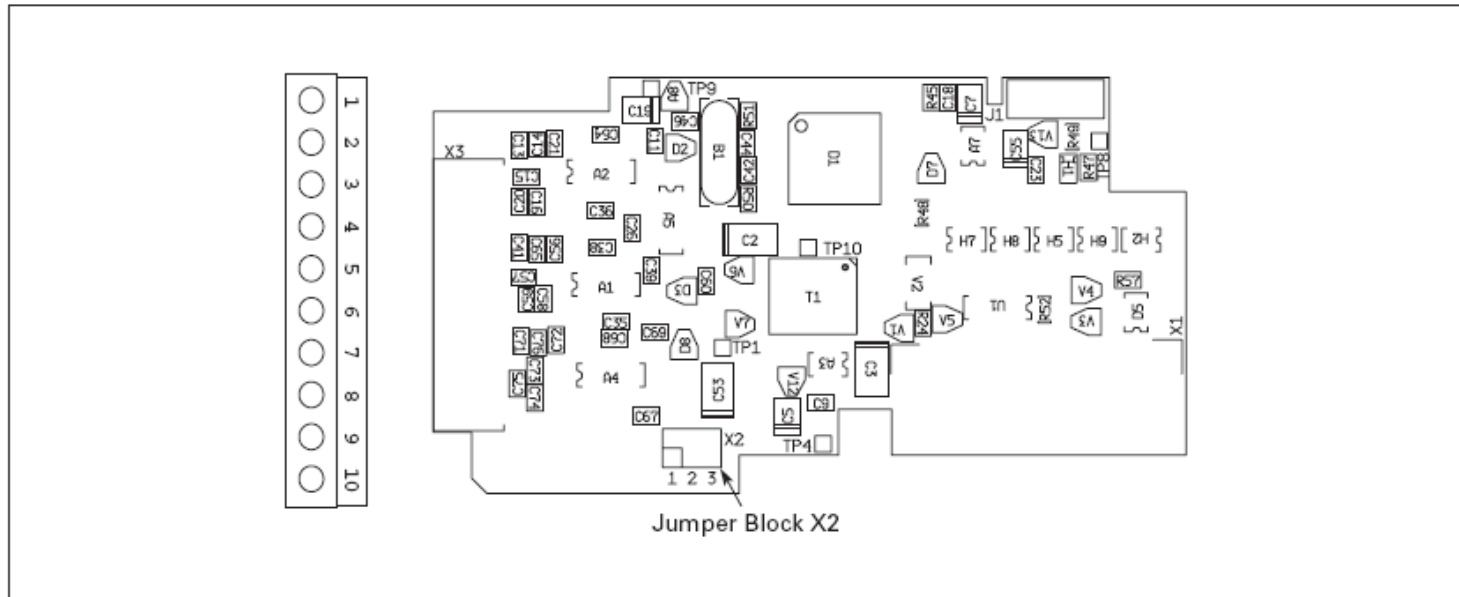

Figure 46: Option Board B8 Terminal Locations
**Terminals:** One terminal block; Screw terminals (M2.6) (see **Figure 46**)